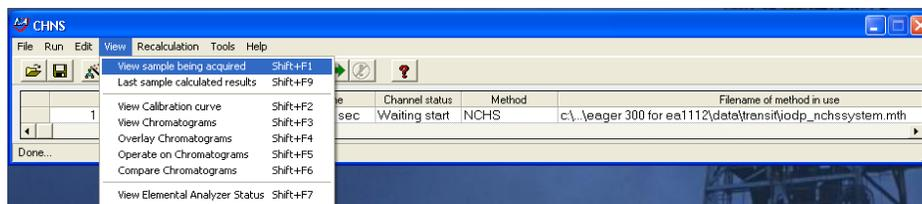

Figure 7. View Menu.
2. To monitor the acquisition status, select **View > View sample being acquired** (Figure 7).